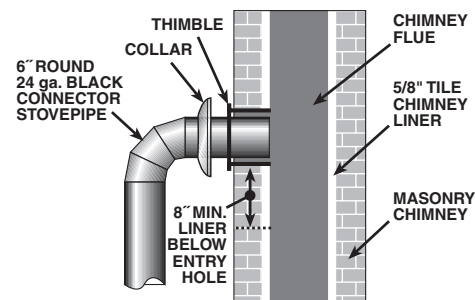

Fig. 10 - Masonry Chimney Connection
Connection may be made to a code-approved masonry chimney with flue liner. Before using an existing masonry chimney, clean the chimney, inspect the flue liner and make any repairs needed to be sure it is safe to use. Make repairs before attaching the stove. The connector stove pipe and fittings you will need to connect directly to a lined masonry chimney are shown in figure 10.
2. Install a fire clay (5/8” minimum thickness) thimble. Make sure the thimble is flush with the inner surface of the chimney liner and does not protrude into the flue (see figure 10 on page 9).